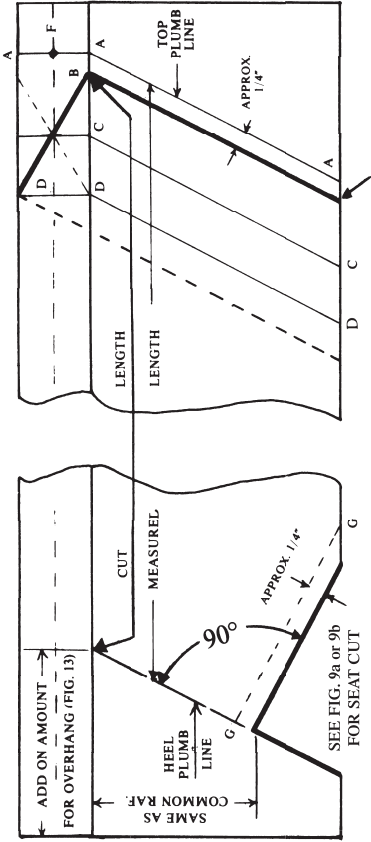

FIG. 11
Fig. 13 shows Tail of Hip fit into corner of Fascia Board. If you should “mess up” the double cheek cut (explained in Fig. 11 & 15) and tail ends up being too short, nail a scab onto the sides of Hip (dotted line on Fig. 13).
Because the plane of the roof breaks down from the center line of the Hip, this leaves the edges of the Hip about 1/4” too high on 1-1/2” wide lumber. The Hip can be dropped by cutting seat cut 1/4” deeper, thus lowering the Hip (Line G, Fig. 11). Valley rafter is not dropped.
Before cutting, move back from top plumb line “A” approximately 1/4” to line “B” (Fig. 11). Set saw to 45° angle and cut on “B”. Determining distance from plumb lines “A” to “B” is explained under SHORTENING OF THE HIP (p.23).
Compare lines A,B,C,D in Fig. 11 with same ones in Fig. 14 to see the shortening effect of the Hip (using 1-1/2" thick lumber) at the ridge. This same effect would be true with a Jack Rafter against the Hip or Valley rafter. Layout as follows: (Fig. 11) Draw a center line on top edge of Hip. Draw Plumb Line at top end and square across top (A). At 90° to line A, measure distance equal to 1/2 the 45° thickness (1-1/16") of ridge, draw plumb line at C (this is shortening line) and square across top.
The rise and run of a jack rafter are the same as that of a *common* rafter. When marking jacks use the *common* rafter scale and same number (inch rise). Where rafter rests against hip or valley, mark plumb cut, then cut at 45° angle along this mark. This will give both plumb cut and side cut (Fig. 11). When resting on ridge or plate, lay out the same as for the common rafters. For cripple jacks, mark plumb cuts on both ends and saw at 45° as above.
When measuring the length of the jack rafter, measure from longest corner (plumb cut on 45°) to other plumb cut mark, along *Top Side* (same as shown in Fig. 11 for hip rafter). Cripples are measured from long point to long point diagonally along top edge. Measuring to the long point will compensate for 1/2 of the ridge thickness (or for jacks, 1/2 of valley or hip thickness). There is no problem in laying out these angles on the rafters as long as you keep in mind which side of the hip (or whatever) you want the rafter to fit against. Usually a carpenter will space the ceiling joist from an outside wall and working to a 48" center. This gives proper spacing for dry wall or panelling or whatever is used. Proper spacing of ceiling joist will aid in roof